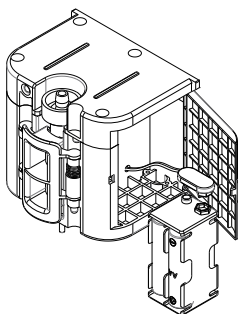

Abb. 1
- C. Check the battery assembly (item no. 5). Are batteries new and sufficiently powerful? (Use 4 pcs. 1.5 Volt ALKALINE batteries type "AA"). Are batteries correctly assembled in the dispenser (cf. Fig. 1)?